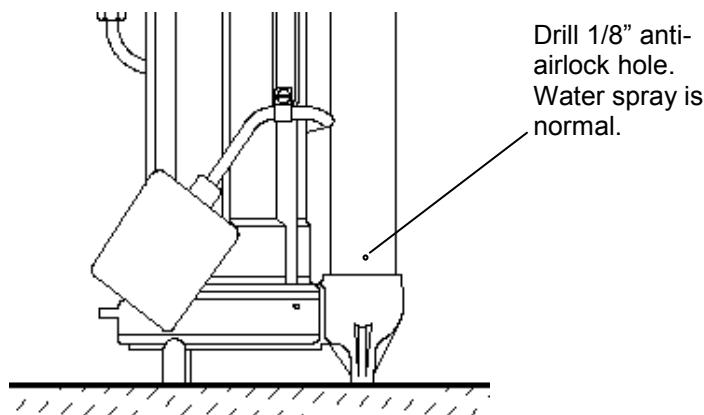

Fig. 1 – Anti-airlock hole position
7. If a check valve is used, a **1/8" anti-airlock hole should be drilled in the discharge pipe just above the pump's discharge outlet to prevent pump "airlock"** (see Fig. 1)